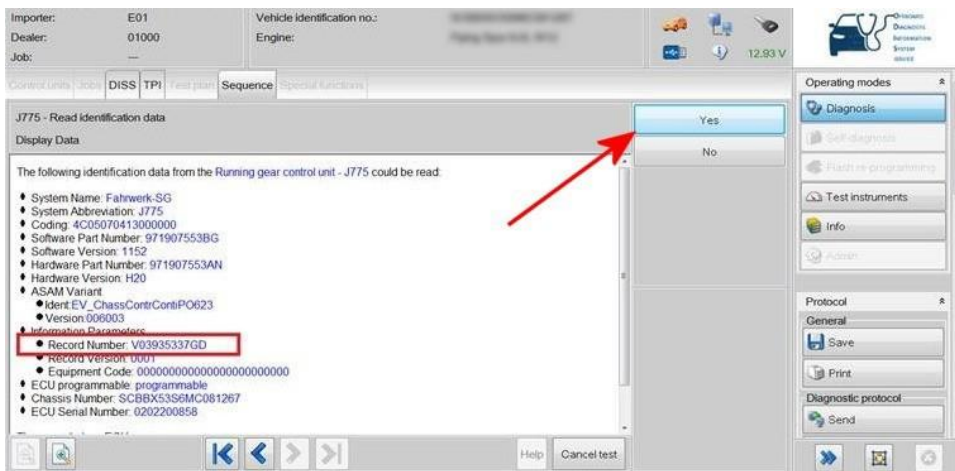

Figure 9
8) Referring to Figure 9 – Ensure the Record number is V03935337GD this confirms the update has successfully completed